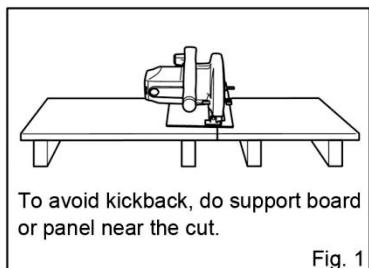

Fig. 1
- Support large panels to minimize the risk of blade pinching and KICKBACK. Large panels tend to sag under their own weight. Supports must be placed under the panel on both sides, near the line of cut and near the edge of the panel. (**Fig. 1**)
To minimize the risk of blade pinching and kickback, when cutting operation requires the resting of the saw on the workpiece, the saw should be rested on the larger portion and the smaller piece cut off. (**Fig. 1&2**)